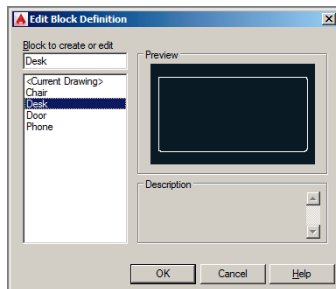

FIGURE 7.18 Selecting a block definition to edit
1. Type **BEDIT** (for Block Editor), and press Enter. Select Desk in the Edit Block Definition dialog box that appears (see Figure 7.18). Click OK.